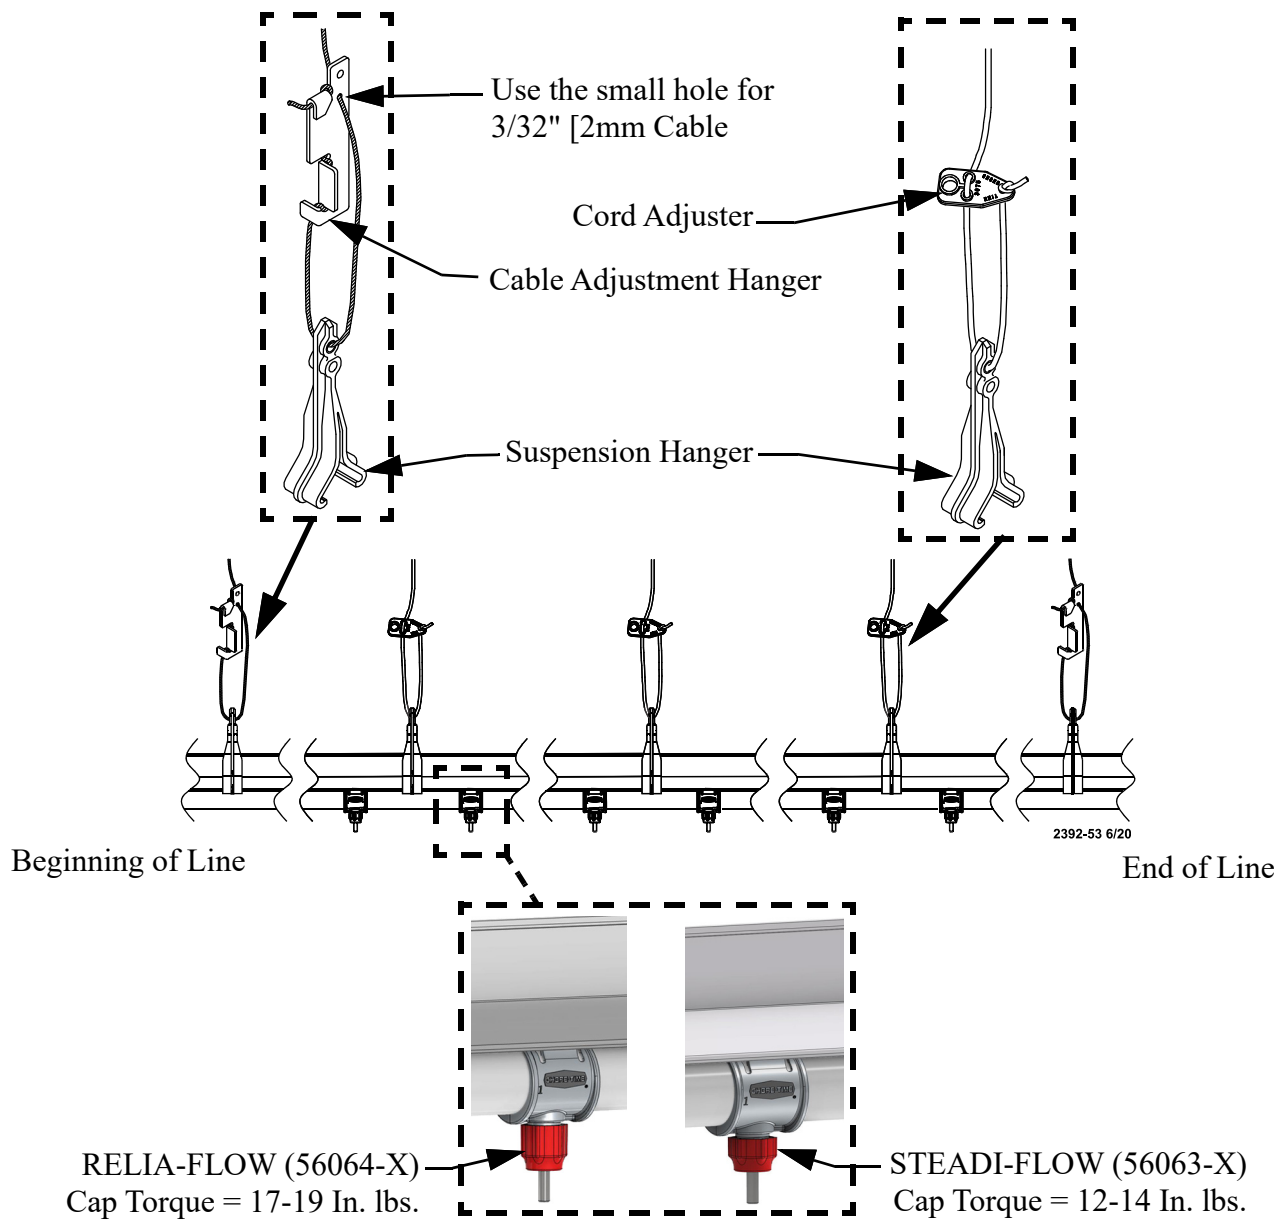

**Figure 17. Cable Wrap on Drum**
6. Attach one end of the 3/16" [4.8 mm] cable to the winch as shown in **Figure 17**. Unroll the cable along the length of the water line.